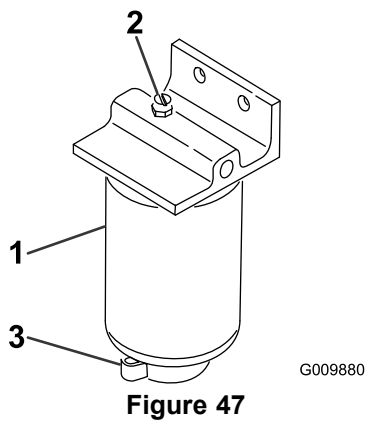

Figure 47
2. Loosen drain valve on bottom of filter canister and allow the contents to drain (Figure 47).
2. Remove filter canister and clean the mounting surface (Figure 47).